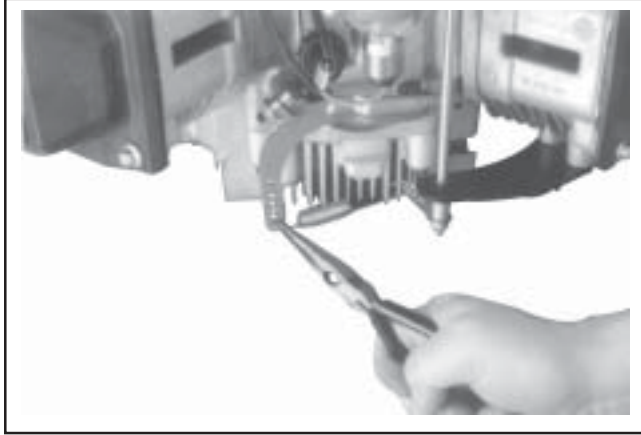

Figure 11-76. Connecting Governor Spring to Governor Lever.
10. Connect the Oil Sentry™ Indicator light wires. Attach governor spring to governor lever. See Figure 11-76 and appropriate charts on pages 11.23 through 11.25.